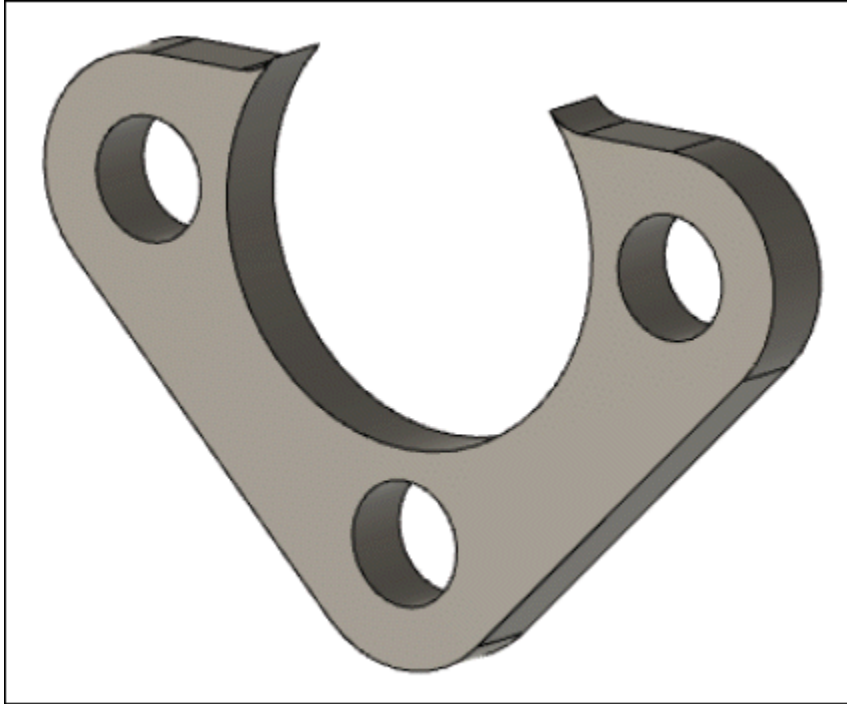

Figure-44. First sketch extruded
- Click **OK** button of **EXTRUDE** dialog box to finish this extrusion. The first sketch will be extruded and another sketch to be extruded will hide automatically; refer to Figure-44.